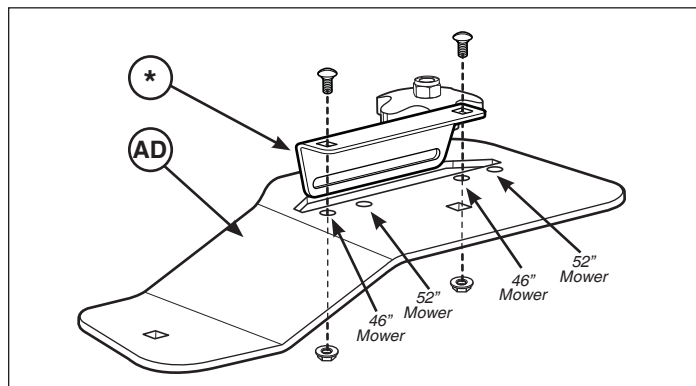

Figure 6
4. The height of cut bracket (*, Figure 6) is pre-assembled onto the turbo belt cover (AD). Placement of the bracket needs to be assembled in the appropriate hole placements to accommodate the 46" or 52" mower decks. See Figure 6.